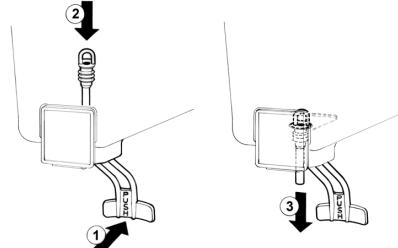

figure 5
**2 Pinch tube faucet:** push the dispensing handle (1) and insert the pinch tube into its vertical seat in the bowl bottom(2). Lightly pull the pinch tube end downwards til it is well
arranged (3) (see figure 5).